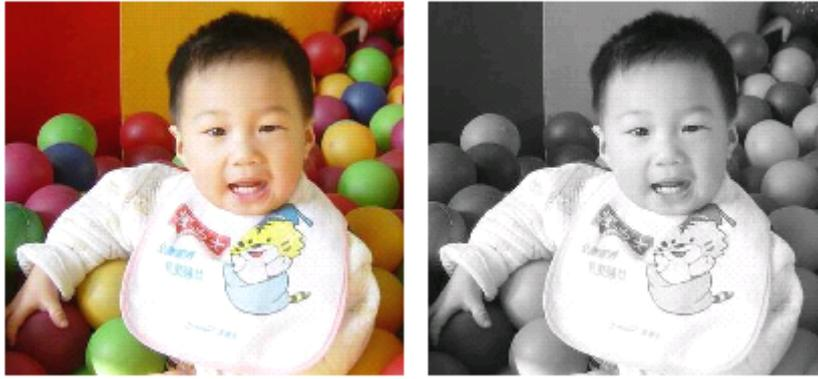

Figure 4-54 Color and Grey (Left is original.)
**Gray:** change color photos into grey of level 256 (Figure 4-54)